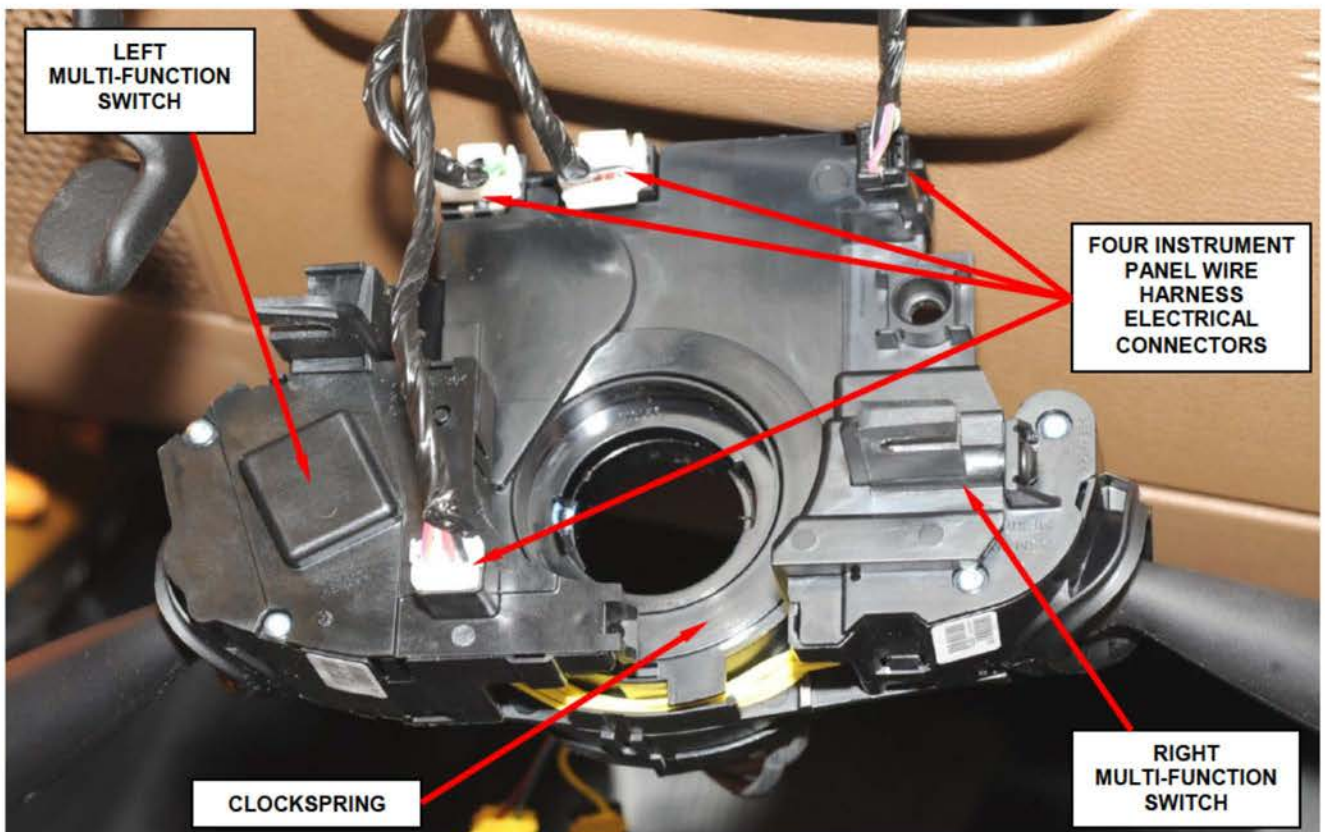

Figure 4 – Clockspring Electrical Connectors
10. Pull the clockspring away from the steering column lock housing far enough to access and disconnect the four instrument panel wire harness electrical connectors from the receptacles on the back of the clockspring (Figure 4).
19. Connect the four instrument panel wire harness electrical connectors to the receptacles on the back of the clockspring (Figure 4).